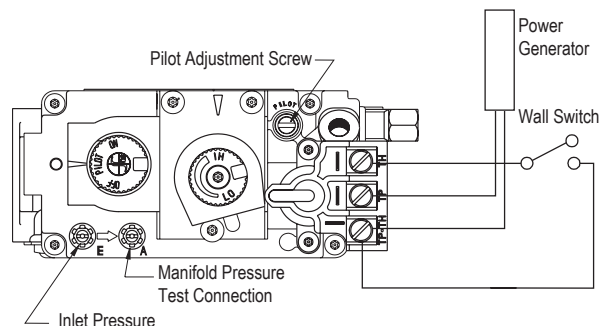

Figure 33. 'Pilot' Adjustment on the L42DF* s gas valve.
1. Locate Pilot Adjustment Screw. (See **figure 33**.)
Pilot won't ignite	Disconnect remote wires and try to light pilot. If pilot now works, remote connections are faulty. Check wiring diagram figure 33.
Main burner will not ignite	1. Check wiring (see figure 33). 2. Check wall switch for proper connection.